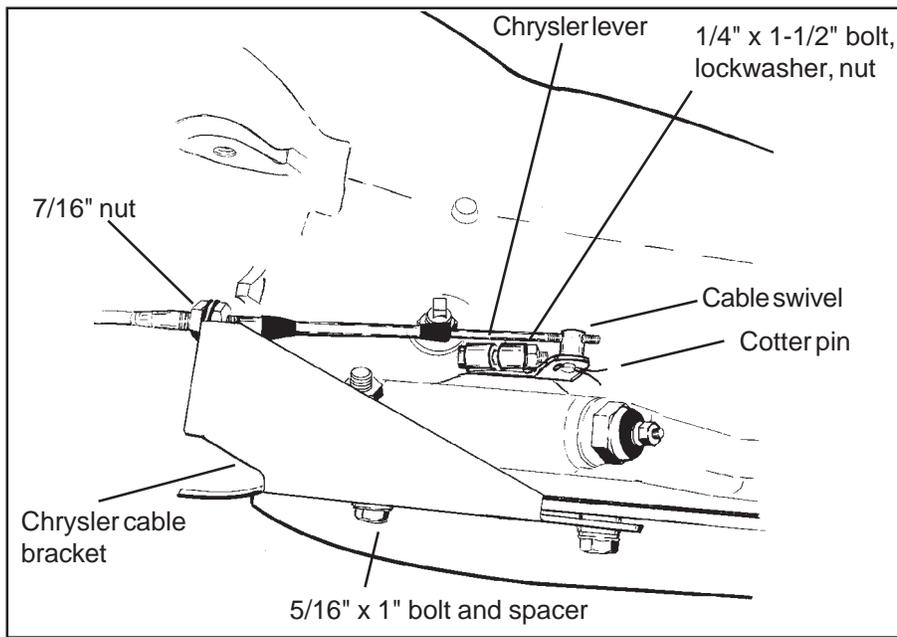

Figure 7
STEP 19. If you have not already done so, loosen the pinch bolt on the throttle lever on the transmission. This is the lever on the small diameter shaft. Pry the lever off with a screwdriver and allow the linkage to hang free. Remove and discard the stock shift lever and the stock shift linkage. Install the **B&M** selector lever in position and tighten the pinch bolt securely (See Figure 7). Make sure the lever is not pushed down so far as to touching the transmission case. This will cause the lever to bind on the case. The lever should travel smoothly from front to back with a positive click in each gear position. Install the stock throttle lever into position on the small diameter shaft as removed and tighten the pinch bolt securely. The throttle lever must operate smoothly.
STEP 20. Remove the two transmission oil pan bolts directly below the shift lever. Install the cable bracket into position with two spacers between the pan and the bracket (See Figure 7). (If your transmission is equipped with a cast aluminum oil pan these spacers can be omitted). Install the two supplied 5/16-18 x 1.00" pan bolts and tighten to 12-13 lb. ft. Do not overtighten as this can damage the pan gasket.